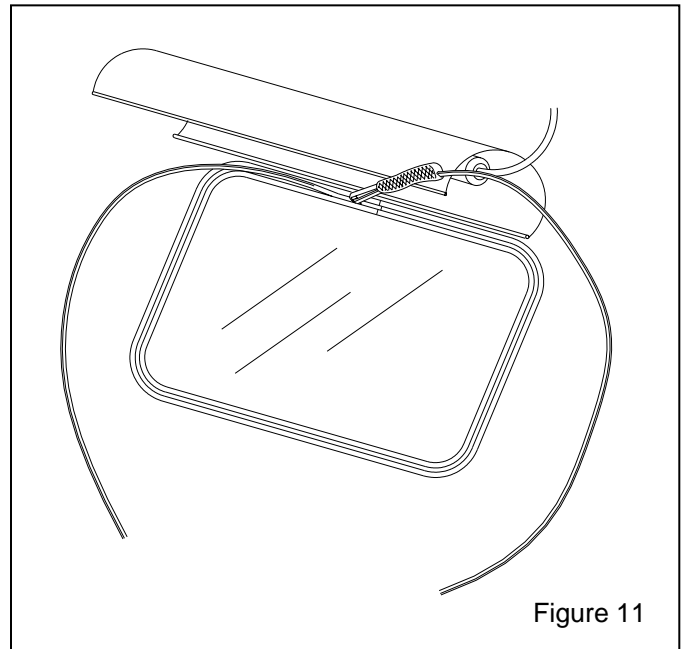

Figure 11
**6.3.9.** Insert the end of the installation tool and filler strip into the filler strip channel of the molding, about two inches to the left of the window molding ends, as shown in Figure 11. The rounded side of the filler strip faces up.